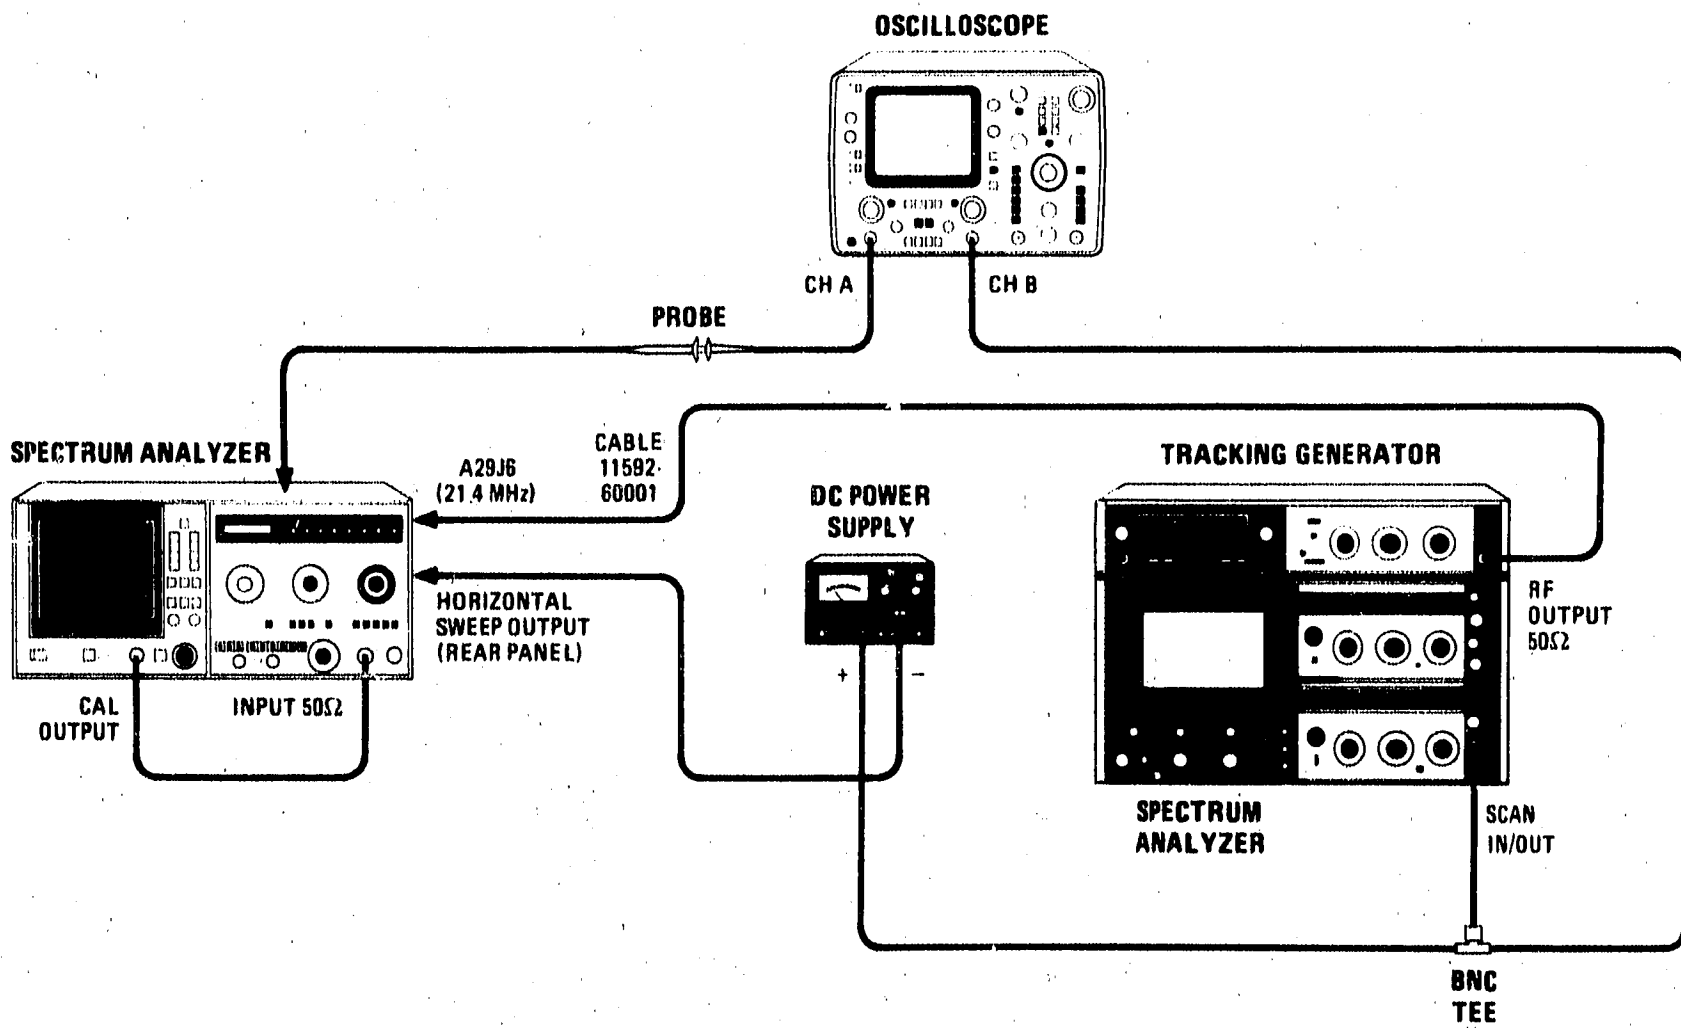

Figure 5-20. Bandwidth Filter Adjustment Test Setup
2. Reconnect power cord; set LINE switch ON, and connect equipment as shown in Figure 5-20. With normal settings (green), set spectrum analyzer controls as follows: